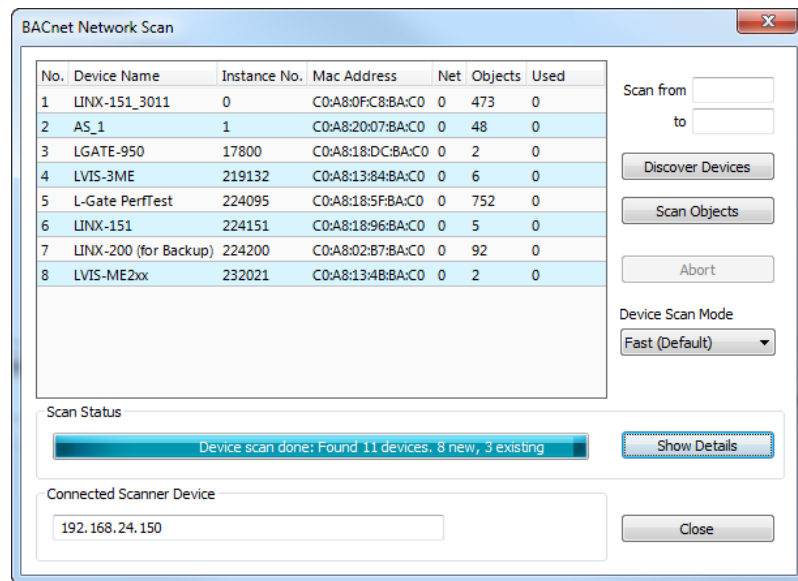

Figure 123: BACnet network scan dialog.
3. Right-click on that folder and select **Scan BACnet Network....** This opens the BACnet Network Scan dialog as shown in Figure 123.